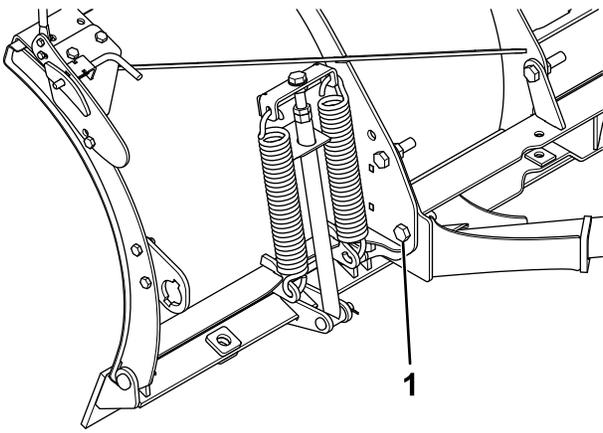

**Figure 5**
9. Loosely attach a rib bracket to the outermost plow rib using 2 bolts (1/2 x 1-1/2 inches) and locknuts (Figure 5).